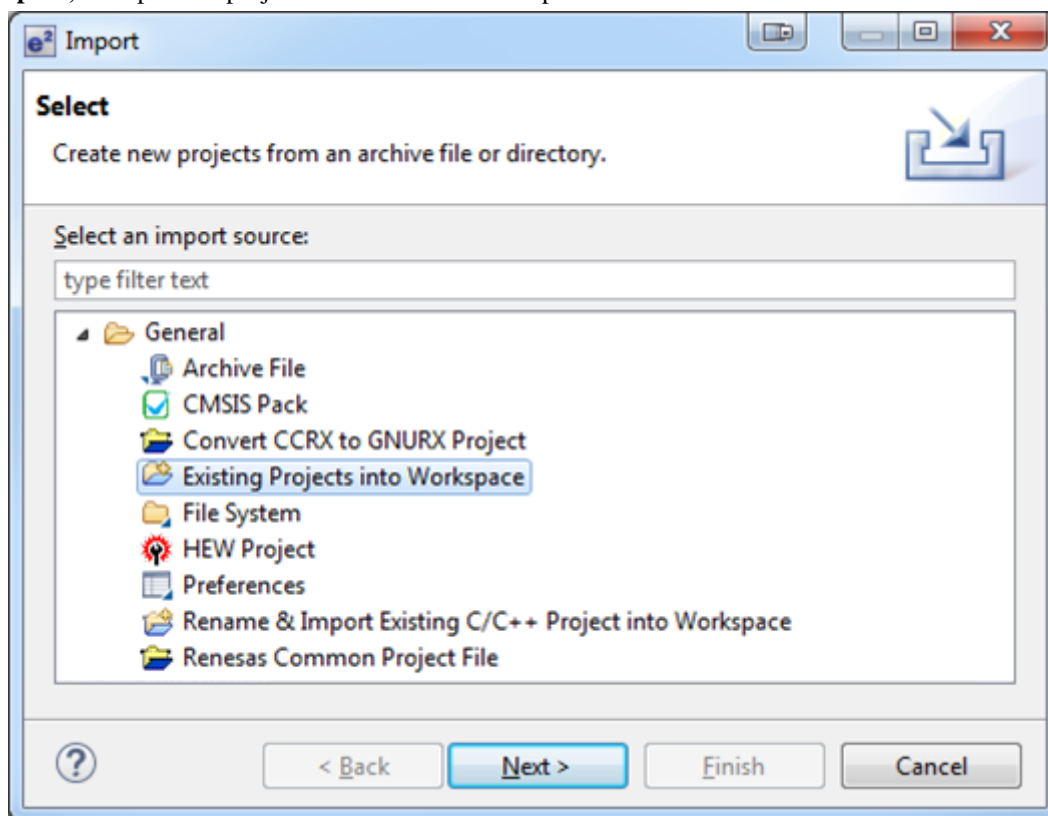

Figure 2.7 Project Import dialog with “Existing Projects into Workspace” option selected
5. In the Import dialog box, as shown in Figure 2.7, choose the **General** option, then **Existing Projects into Workspace**, to import the project into the current workspace.